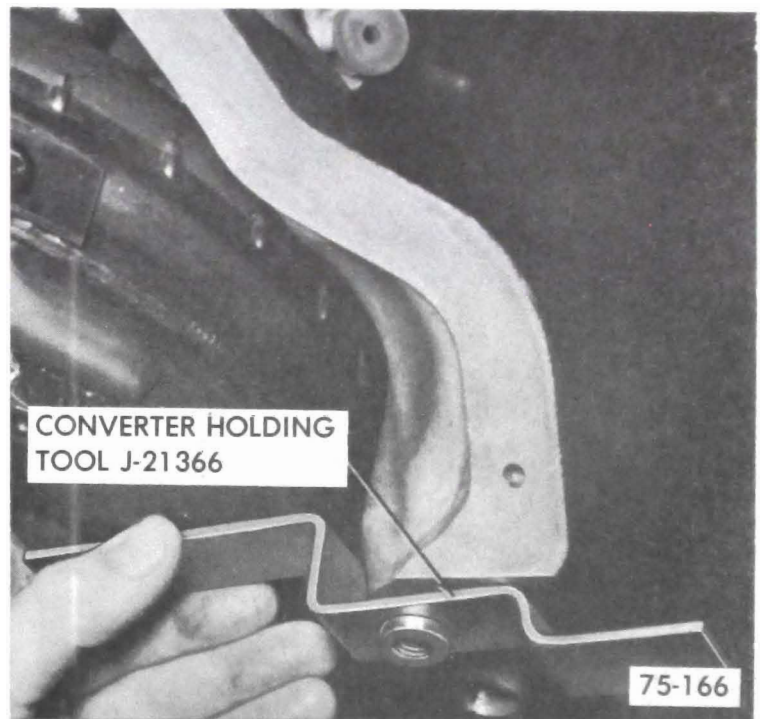

Figure 75-69
2. Remove converter Holding Tool J-21366. See Figure 75-69.